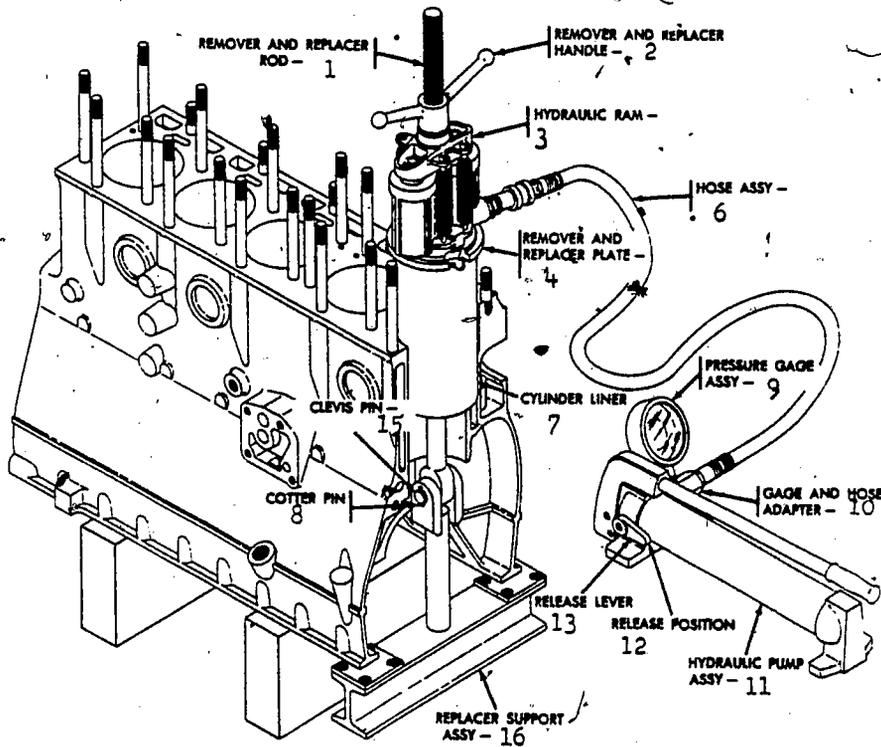

Fig 5-8. Cylinder sleeve remover and replacer kit and ram kit showing proper method of cylinder liner installation.
Before installing the new liner, place the oil pan gasket surface of the crankcase on suitable blocks. Position the replacer support assembly (16, fig 5-8) under the cylinder bore requiring a new cylinder liner (fig 5-8).
Note: The shoe and the remover sleeve (14) and (5) are not shown in figure 5-8. They are not required when installing new cylinder liners.
Position the new cylinder liner over the cylinder bore with the flange end up. Place the remover and replacer plate (4, fig 5-8) over the liner with the small diameter of the plate seated in liner.
Position the hydraulic ram (3, fig 5-8) and remover and replacer handle (2, fig 5-8) on the rod.
Connect hose assembly (6, fig 5-8) to hydraulic ram inlet.